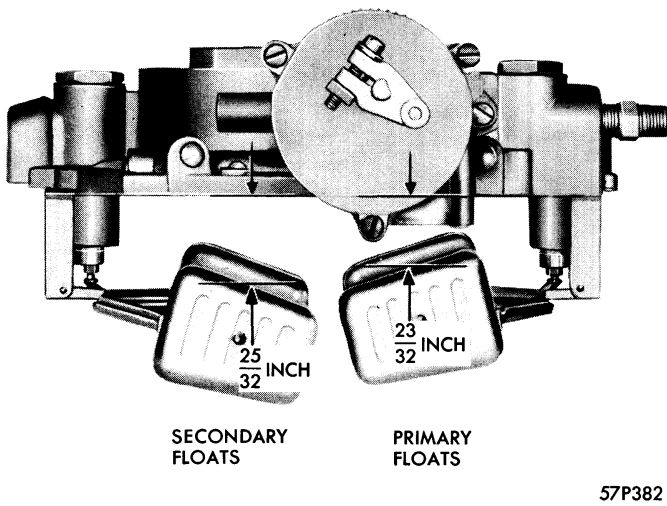

Figure 76—Checking Float Drop
**Float Drop Adjustment**—After performing the float lever adjustment, invert air horn assembly and note distance that floats drop. Refer to Data and Specifications for the correct settings for a particular carburetor. See Figure 76. Bend the tang that contacts the needle valve seat to obtain the correct adjustment.